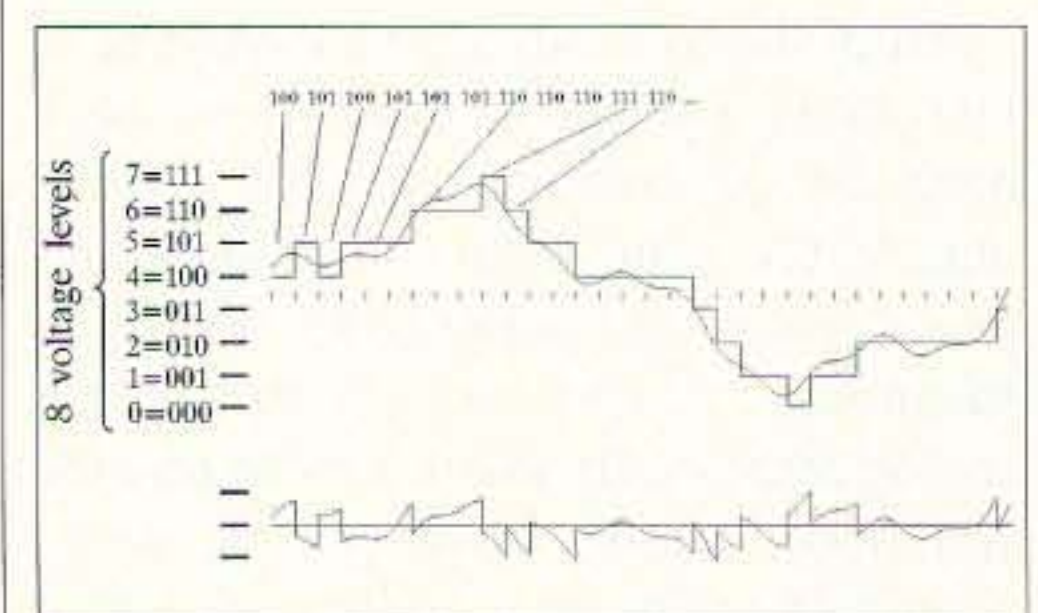

Fig. 6. Calculation of error and signal-to-noise.
To see what this means, let's suppose that we have a converter which has a three-bit output; it can therefore detect eight (2^3) different voltage levels. Look at Fig. 6 to see what this would mean.
eight levels are labeled with their binary equivalents, from 000 for the lowest to 111 for the highest. The output from the ADC would therefore be the series of numbers 100, 101, 100, 101, 101, ... as shown at the top of Fig. 6.
In other words, the gradual changes in the input voltage that occur between samples are ignored; the ADC only sees the signal as it exists at the instant it is sampled. As far as the ADC is concerned, the signal might as well be the squared-up wave that is shown superimposed over the analog signal in Fig. 6. When the digital signal is eventually converted back to analog, we will get this squared-up signal, but the filter circuit in the output will round off the sharp corners.
The bottom curve in Fig. 6 plots the difference between the original analog signal, and the squared-off quantized signal that the ADC thinks it sees—this is the noise or distortion. Let's try to compute its size in terms of the voltage steps that the ADC can detect.
The maximum peak-to-peak amplitude of the original analog signal is eight divisions. The error signal at the bottom of Fig. 6 has a maximum peak-to-peak amplitude of two divisions. But notice that this signal has very sharp tips at its maximum and minimum points; after the filtering that occurs at the end, those peaks will be rounded off, and the peak-to-peak amplitude of the error will be less than one division peak-to-peak.
For example, in Fig. 6, we saw that the first few quantized steps in binary were 100, 101, 100, 101, 101, 101, 110, 110, 110, 111, 110, etc., each of which required three bits. In decimal, these are the numbers 4, 5, 4, 5, 5, 5, 6, 6, 7, 6, etc. Once we know the first value (4), we can specify the others by giving only the differences from the previous number. For example, the second number is 101 or 5, which is the previous number (4) plus 1, so we would write +1. The sequence would then be +1, -1, +1, 0, 0, +1, 0, 0, +1, -1, which would require fewer bits than expressing